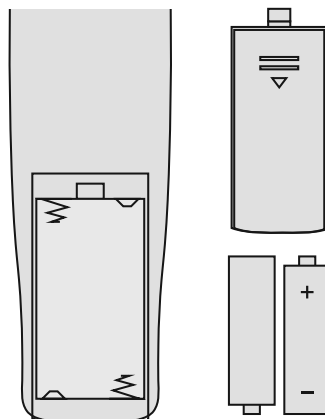

Fig. 4. Batteries installation
- Remove the cover on the RC rear panel (Fig. 4).